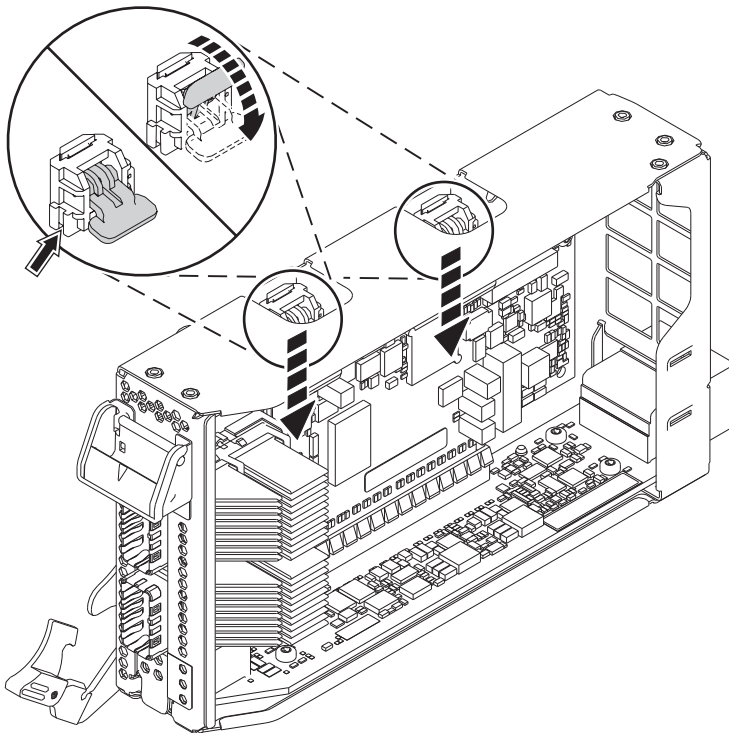

Figure 7. Locking the cassette ratchets
- d. Rotate the cassette ratchets that are at the top edge of the cassette to lock the adapter in place. See Figure 7.